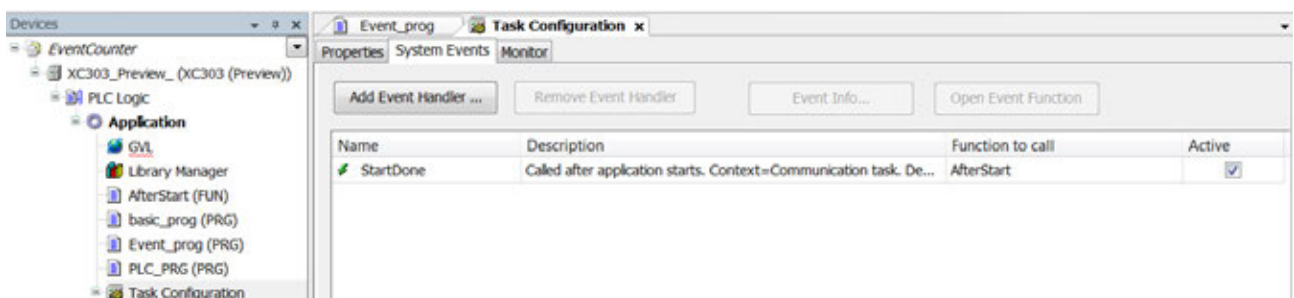

Figure 40: Assigning a function to the system event
- ▶ Create “Event”-type task with the name “Event” as shown in figure 40.